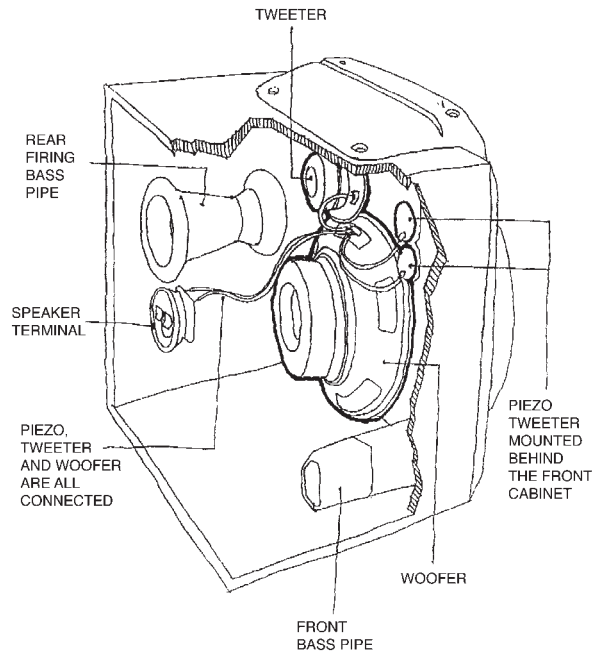

FIG. 1 CUT-OUT VIEW OF SPEAKER BOX-E
**INFORMATION :** The 2 tweeters at the upper part of the 4-way Loudspeaker Box are dummies and for ornamental reasons only. The piezo tweeters are mounted behind the Front cabinet (see fig. 1) instead of the top part. There is no acoustical difference between mounting piezo tweeters on top or on front.